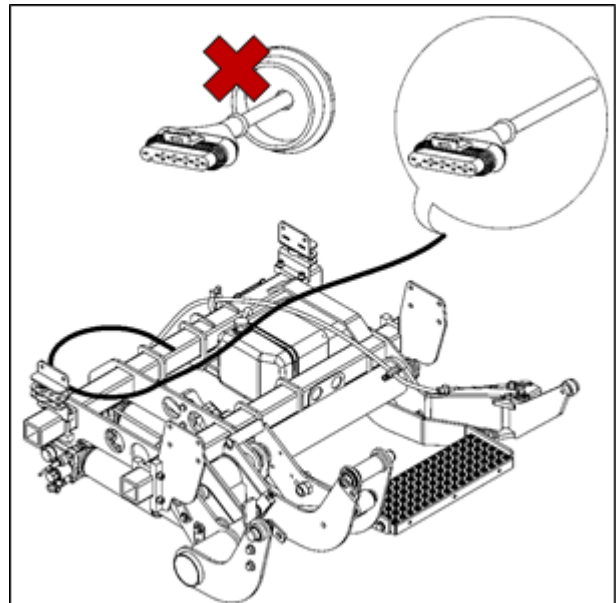

Figure 22
- Route the control unit cable for control panel connection to the right as viewed in the forward direction of travel (see Fig. 22).